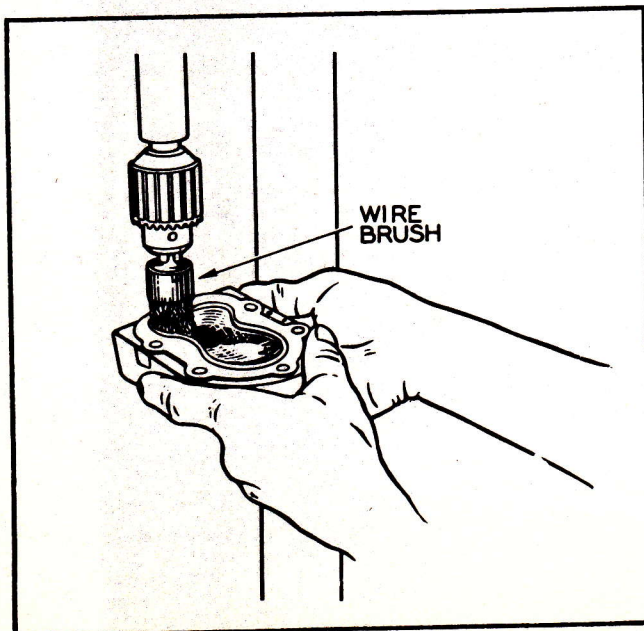

Figure No. 16
2. Scrape the foreign matter from the head with a suitable tool and remove carbon deposits by cleaning with a wire brush. (See Figure No. 16).